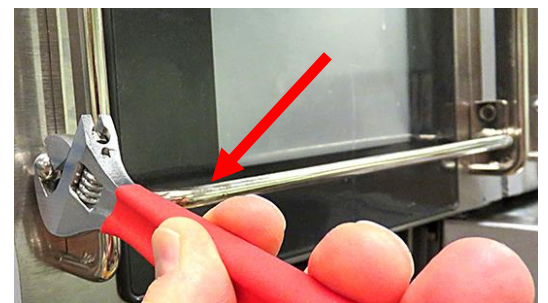

Figure 93
91. Reattach the guard rails removed in steps 3 & 4 (see Figure 93).